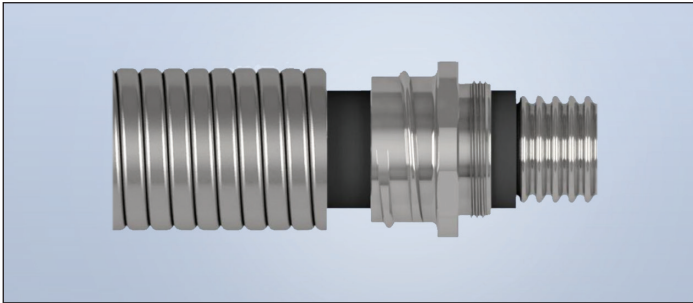

Figure: 1-10
4. **BEFORE** installing the fitting, slide the floppy conduit then the Floppy Conduit Adapter over the tubing. Ensure the finer pitch thread of the Floppy Conduit Adapter faces the Back Flange (Figure 1-10).